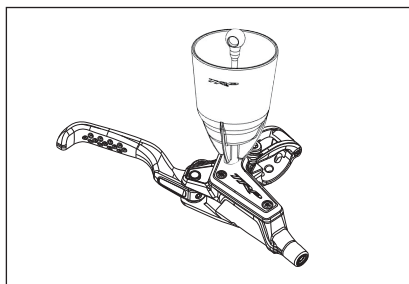

Fig 6
- Use a T15 Torx wrench to remove the bleed screw from the lever and attach the TRP bleed funnel. (Fig6)